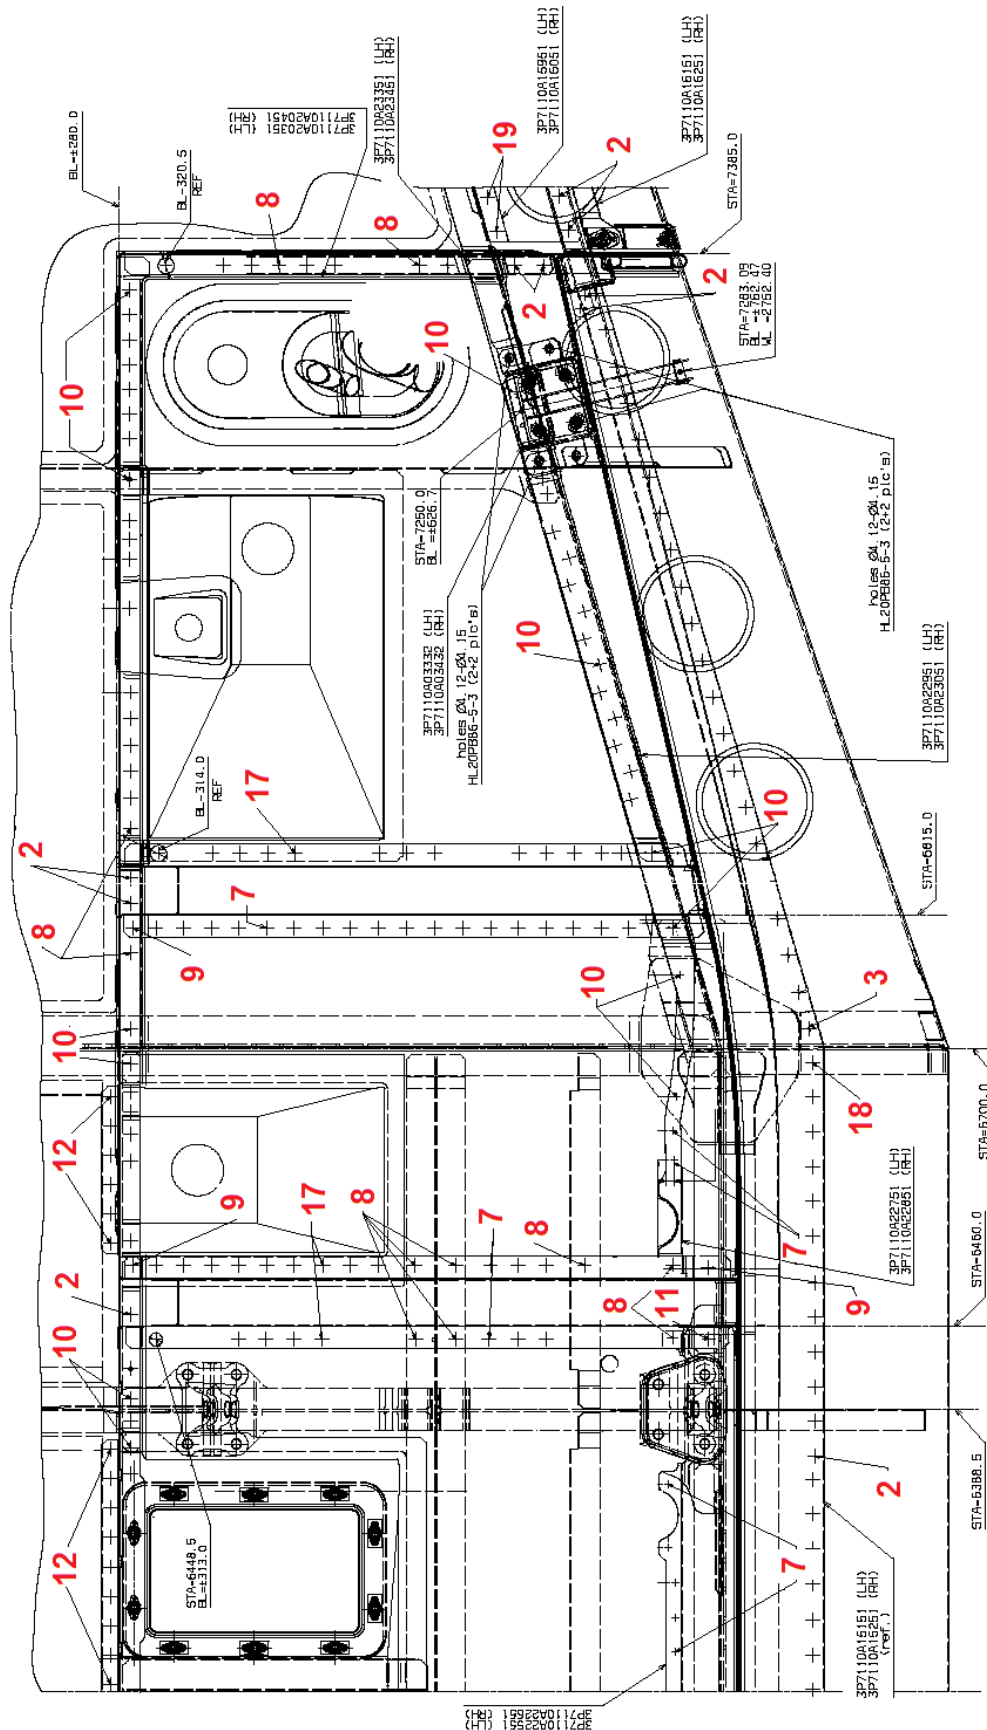

Figure 6 – View A-A from Fig 5.
4. With reference to Figure 6, drill out rivets that install Clamping Rings P/N 3P7119A04732, 3P7119A04832, 3P7119A04432 and 3P7119A04332 (STA 6815 and STA 6388)
6. With reference to Figure 6 drill out rivets that install LH and RH Longeron Firewall P/N 3P7119A03133 and P/N 3P7119A03233 (STA ± 280.0)
11. With reference to Figure 6, install rivets on LH and RH Longeron Firewall P/N 3P7119A03133 and P/N 3P7119A03233 (STA ± 280.0)
13. With reference to Figure 6, install rivets on Clamping Rings P/N 3P7119A04732, 3P7119A04832, 3P7119A04432 and 3P7119A04332 (STA 6815 and STA 6388)